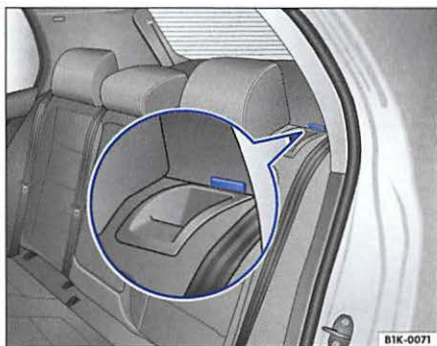

Fig. 57 Seatback latch for the rear seat
– Fold the backrest backwards and press it back firmly until it latches. The red mark on the release button should no longer be visible ⇒ fig. 57.
- A red mark on the backrest latch ⇒ fig. 57 shows that the backrest is not securely engaged. When the marker is not visible the backrest is properly and securely latched. Always make sure the mark is not visible after raising the backrests to the upright position.